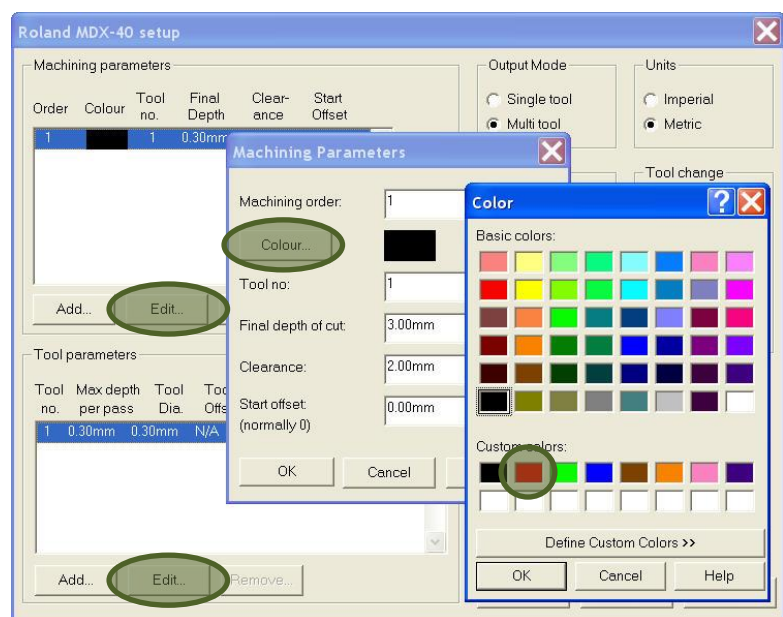

Figure 13
- Click on the ->Edit button, set 'Final depth of cut' to 3.00mm, click on -> Colour button (Figure 13)